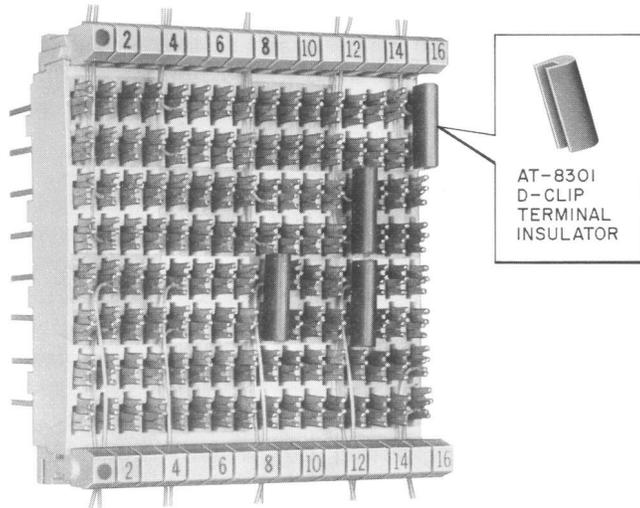

Fig. 5—Protection of Terminal Punchings—Special Service Lines—D-Clip Terminal Insulator as Used on 78C2A-64 Connecting Block
4.04 D-Clip Terminal Insulator AT-8301: On COSMIC distributing frames, three sizes of 78-type quick-connect terminal blocks are used: 50-pair, 64-pair, and 100-pair. Connecting block terminals associated with special service lines are protected and identified by the use of D-clip terminal insulators (Fig. 5). These insulators are red plastic U-shaped channels which clip on the bifurcated terminals to protect both the tip and ring. One insulator is used to protect each pair.